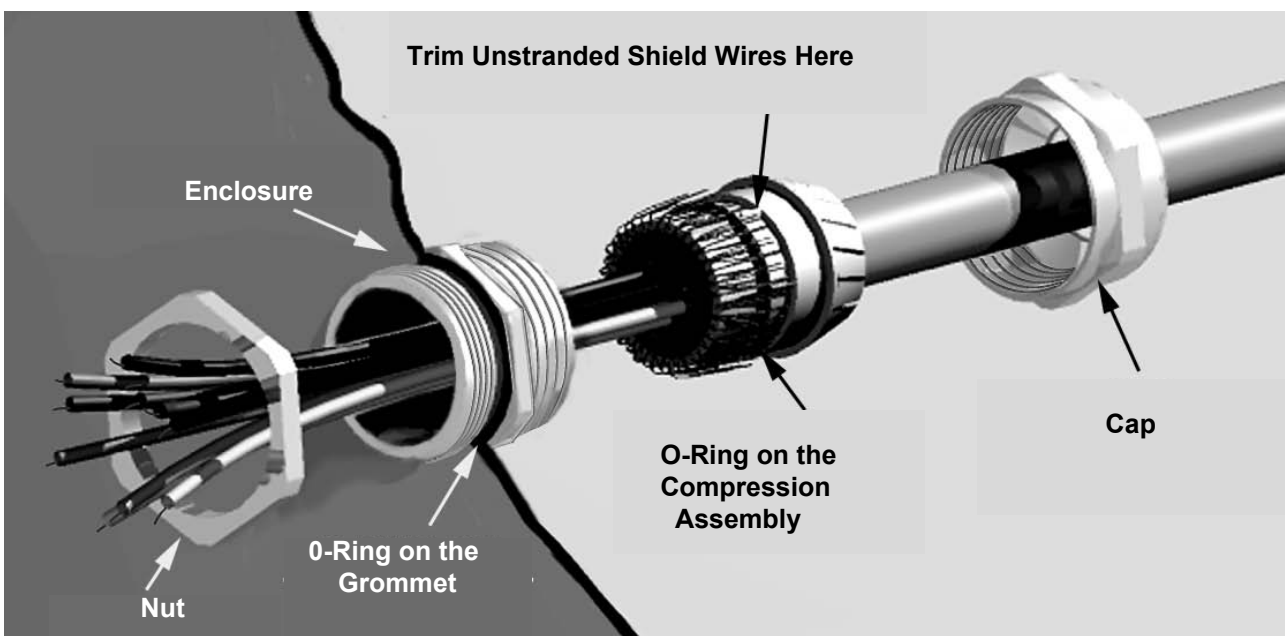

FIG 3.7. - GROUNDING STRAIN RELIEF FITTINGS
Section 3.6 describes how to install the cable leads. All terminals on the rear panel are clearly labeled, as seen in Fig 3.7, to simplify the cable and wire connection.
1. Figure 3.7 illustrates how a braided wire shielded cable is grounded when using either the large or small Grounding Strain Relief fittings.
2. Check that you are using the proper size grounding strain relief. Slip the cap and the compression assembly onto the cable, as in Fig. 3.7. Pay attention to their order, position and direction.
6. Trim the shield wires to a spot just past the o-ring on the compression assembly, as in Figure 3.7.